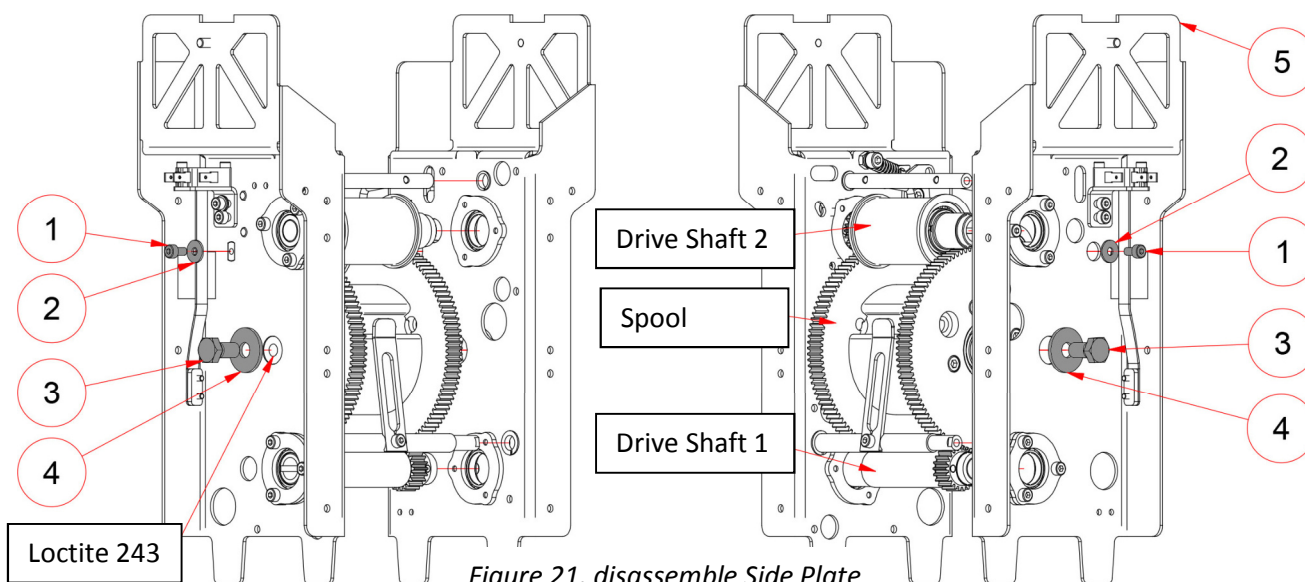

Figure 21, disassemble Side Plate
12. Disassemble the bolts 1 and 3 at both sides (*Figure 21*).
13. Remove the Side Plate (5) by hitting it with a Nylon hammer of the Axles.
18. Assemble the Ceiling Hoist vice versa. Add Loctite 243 (2x) on bolt 2 of *Figure 21*.